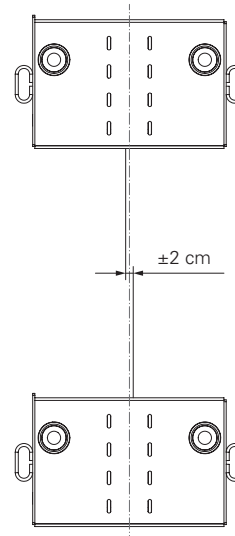

Fig. A3.31
- Tie tube: ± 2 cm (Fig. A3.31)